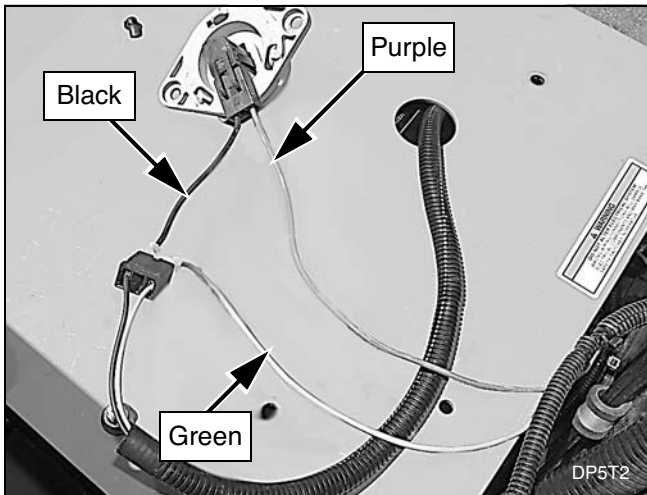

Figure 25. F Series Seat Connection
F Series Power Units (Figure 25)
- NOTE:** Figure 25 shows the seat switch removed from the bottom of the seat for picture clarification. Seat switch does not have to be removed to make these connections.